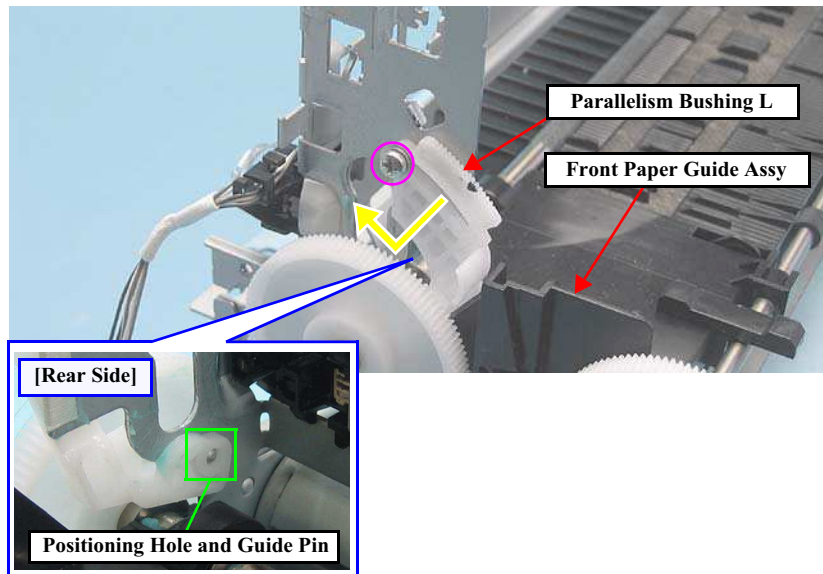

Figure 4-107. Removing the Parallelism Bushing L
■ When installing Parallelism Bushing L, match the positioning hole with the guide pin shown in Fig.4-107 (p.92).